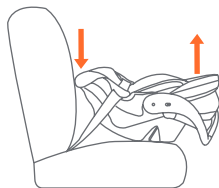
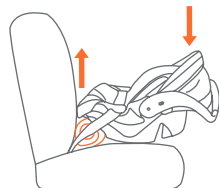

Fig. 48-2
Fig. 48-3
- If the Seat Angle Indicator shows **ANY red**, the Safety Seat is either **too upright** or **too reclined**. If the Safety Seat is too reclined adjust the Safety Seat as shown in Fig. 48-2 until the level indicator shows **NO red**. If the Safety Seat is too upright, place a tightly rolled towel, or car seat noodle, under the foot end of the Safety Seat until the level indicator shows **NO red** (Fig. 48-3). Re-tighten the vehicle seat belt as instructed in section **Securing the Safety Seat or Base in the Vehicle**.